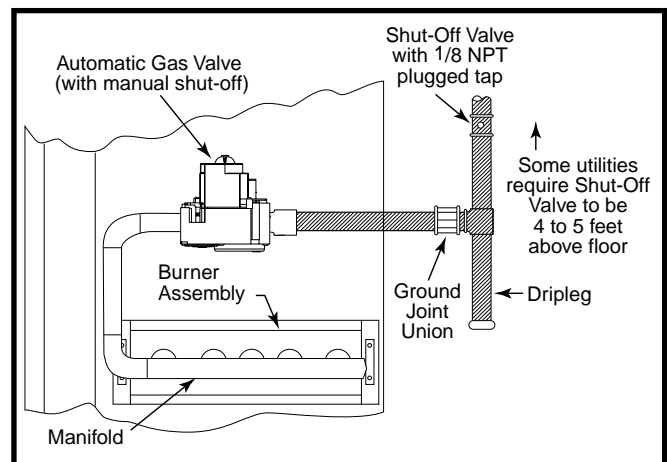

Figure 7. Typical Gas Hookup - Right Side Entry
- Some local codes require the installation of a manual main shut-off valve and ground joint union external to the furnace (Figure 7). The shut-off valve should be readily accessible for service and/or emergency use. Consult the local utility or gas supplier for additional requirements regarding placement of the manual main gas shut-off.
- A drip leg should be installed in the vertical pipe run to the unit (Figure 7).
This unit only has right side gas entry. When connecting the gas, provide clearance between the gas supply line and the entry hole in the unit's casing to avoid unwanted noise and/or damage to the unit. A typical gas service hookup is shown in Figure 7.